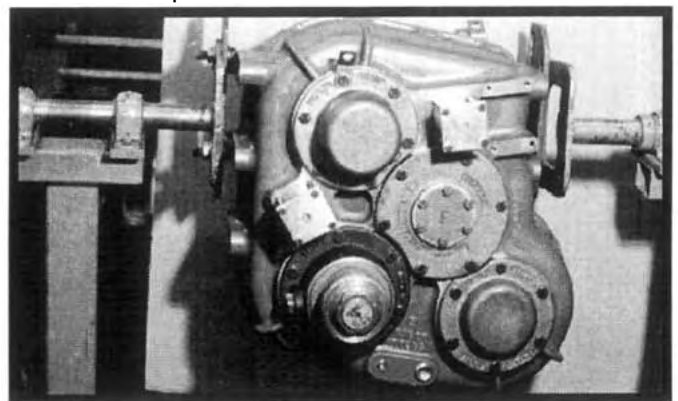

Figure 6.52
39. Install the intermediate shaft cap, the front output shaft cap, and the input shaft cap (or power take-off unit) using the respective shim pack determined in Step 37. When installing the input shaft cap, use the lifting bracket in place of the washer at the uppermost location. See Figure 6.52. Torque the (18) cap screws to specification.